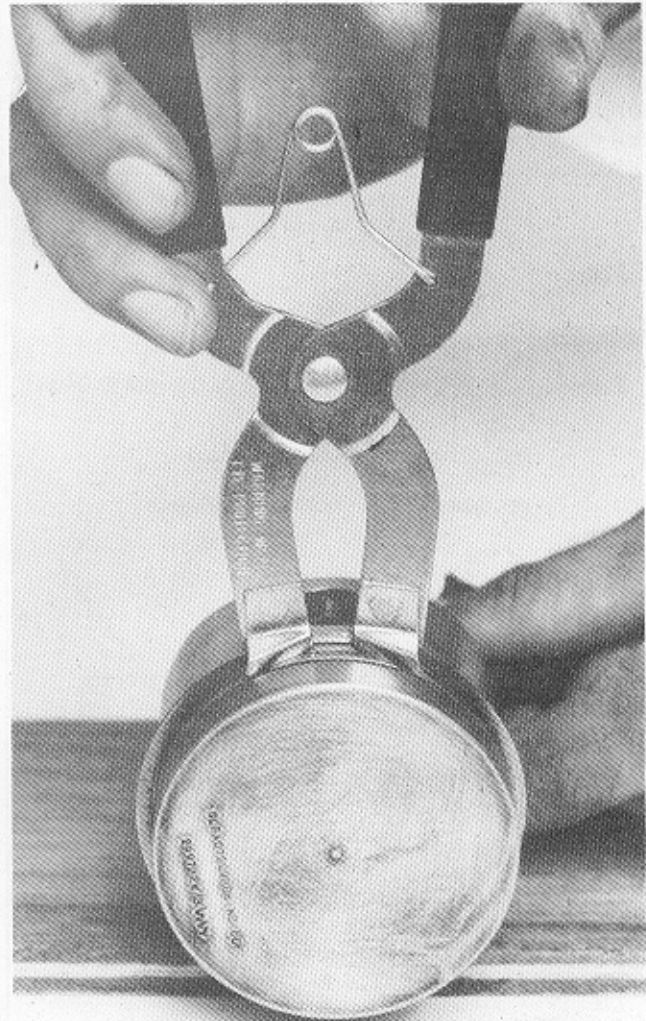
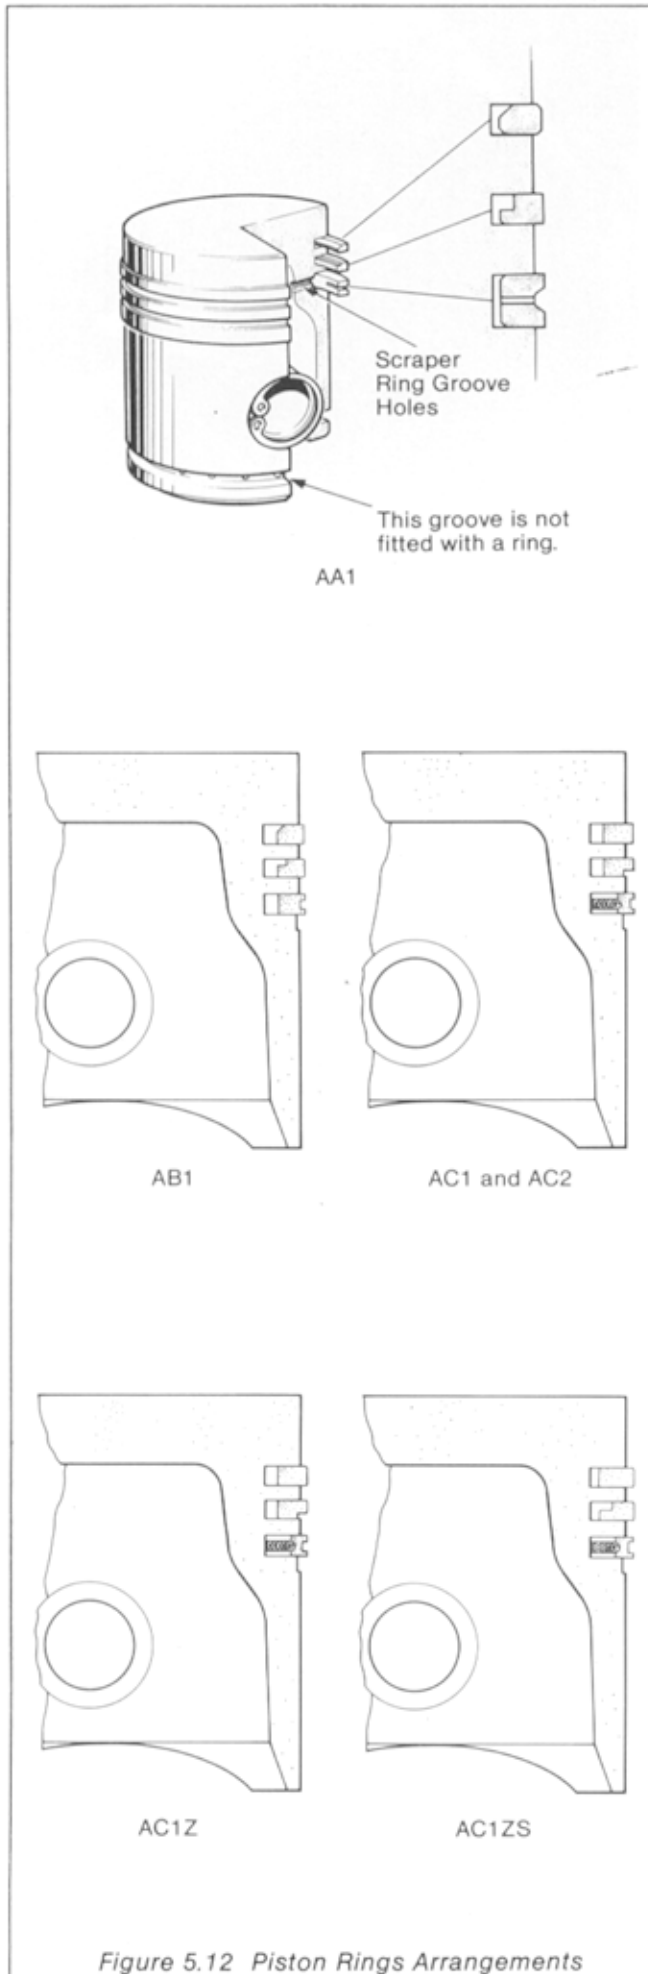

Figure 5.11 Piston Ring Removal
Figure 5.12 Piston Rings Arrangements
- (1) Remove the rings from the piston as shown in Figure 5.11 noting the order of assembly and which ring face is uppermost.
- (2) Remove all the carbon deposit from the rings and ring grooves. The small holes in the piston should receive attention as their purpose is to return excess oil to the sump.
- (3) Insert the piston into the cylinder bore with the crown towards the bottom end of the bore and about 13 mm (0.5 in.) from the bottom edge. Insert the rings one at a time, pushing each ring hard up against the piston crown to ensure that it is level in the cylinder bore. Withdraw the piston sufficiently to allow the gap to be measured with a feeler gauge. The piston ring gap must not exceed 1.14 mm (0.045 in.) If necessary the rings must be renewed. Check the piston ring side clearances are as detailed in the appropriate Engine Technical Data.
- (4) Assemble the rings on the piston in the correct order with the correct face uppermost as shown in Figure 5.12. Rings should not be slack or stuck fast in the groove.
- (5) When the engine has been fully run in, the bore will have a highly polished and very hard surface. If new piston rings are fitted without the cylinder being rebored, the new rings will not bed in satisfactorily. Under these conditions the hard polished bore must be lightly roughened using a medium grade